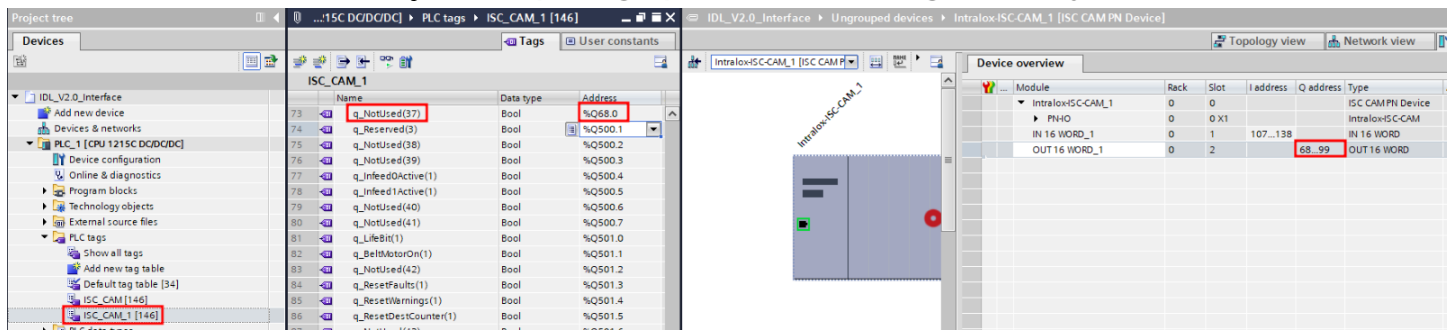

Figure 26: Updating Output ISC CAM PLC Tags for Project
9. Right click on “Ethernet” tree for the PLC which will have the ISC connection, Figure 26.